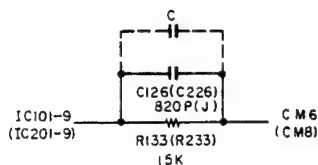

Fig. 4.2.4
- 2) Feed in 10 kHz and 400 Hz (-20 dB), then record and play them back. Check the difference of the levels between 10 kHz and 400 Hz, and mount an additional capacitor in parallel with C126 (C226) on the Main P.C.B. Ass'y from the dip side of the printed circuit board depending upon the difference of the levels against 400 Hz. Refer to Fig. 4.2.4.